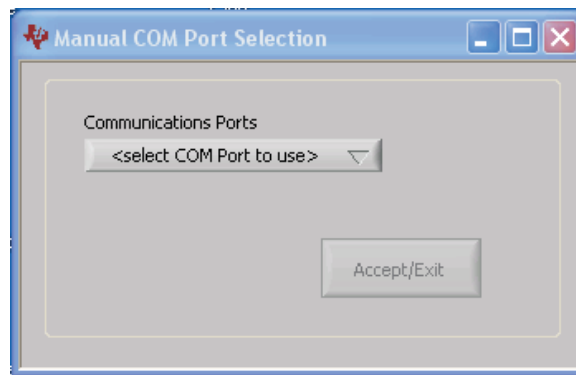

Figure 10. Manual COM Port Selection Window
4. If the *Rescan* option is unsuccessful, you can manually set the COM port to connect to the EVM. The Manual COM Port selection window is shown in Figure 10.